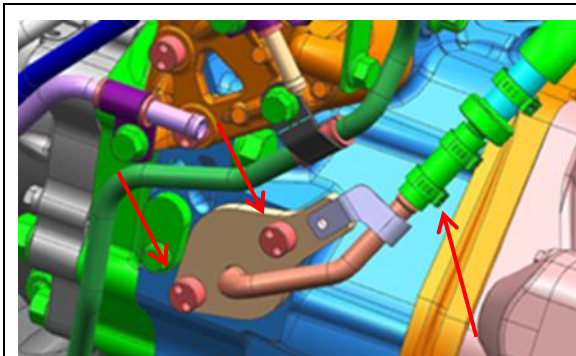

Figure 11
12. Using a flat blade screwdriver remove the lower clip (Oetiker clamp) from the PCV drain hose and disconnect the hose. (See Figure 11.)
13. Remove the two (2) tamper proof bolts (Figure 11) from drain plate using Special Tool EN-48711. (See Figure 12.)
14. Remove old drain plate. (See Figure 11.)